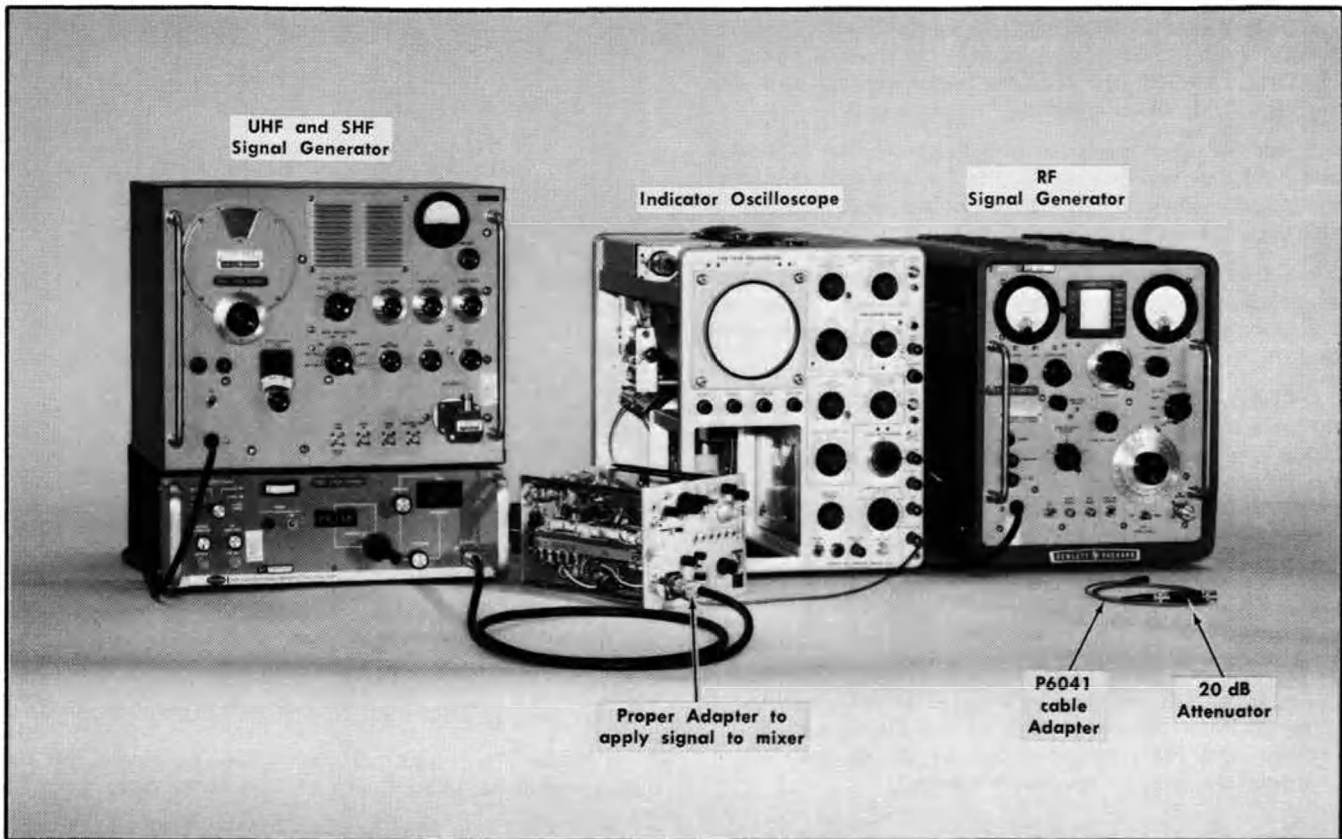

Fig. 5-22. Equipment setup to adjust the wide band IF amplifier and check RF Mixer and wide band IF amplifier response flatness (step 13).
a. Equipment setup is shown in Fig. 5-22.
h. Equipment setup is shown in Fig. 5-22.